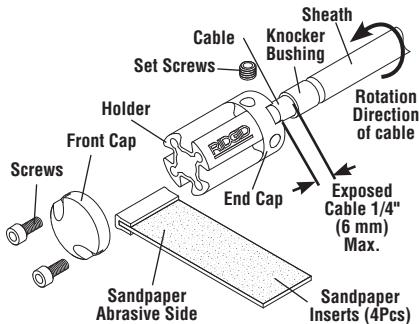

Figure 1 – RIDGID® FlexShaft Sandpaper Attachment
The RIDGID® FlexShaft Sandpaper Attachments are designed to be used with RIDGID FlexShaft Machines for final cleaning of pipe walls (such as before pipe lining) or final reinstatement/lateral clean up after pipe lining (*Figure 1*).
1. Remove the two screws holding the front cap and remove the front cap. (*See Figure 1.*)